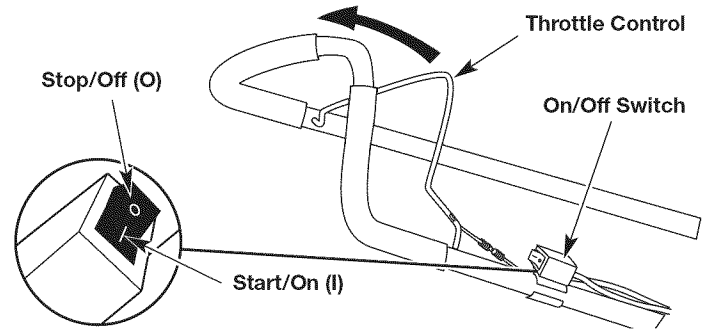

Fig. 4
**NOTE:** There is no need to turn the unit on. The On/Off switch is in the ON (I) position at all times (Fig. 4).
6. **DO NOT** squeeze the throttle control (Fig. 4). Pull the starter rope with a controlled and steady motion until the unit starts.
2. Press and hold the On/Off switch in the OFF (O) position until the engine comes to a complete stop (Fig. 4).